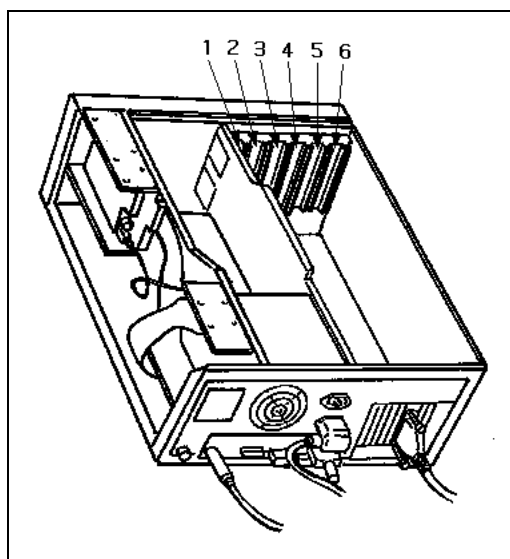

Figure 7-9. Slot Numbers: NCR System 3333 (Model 3020)
3. Identify the board by using Table 7-1 and Figure 7-9.